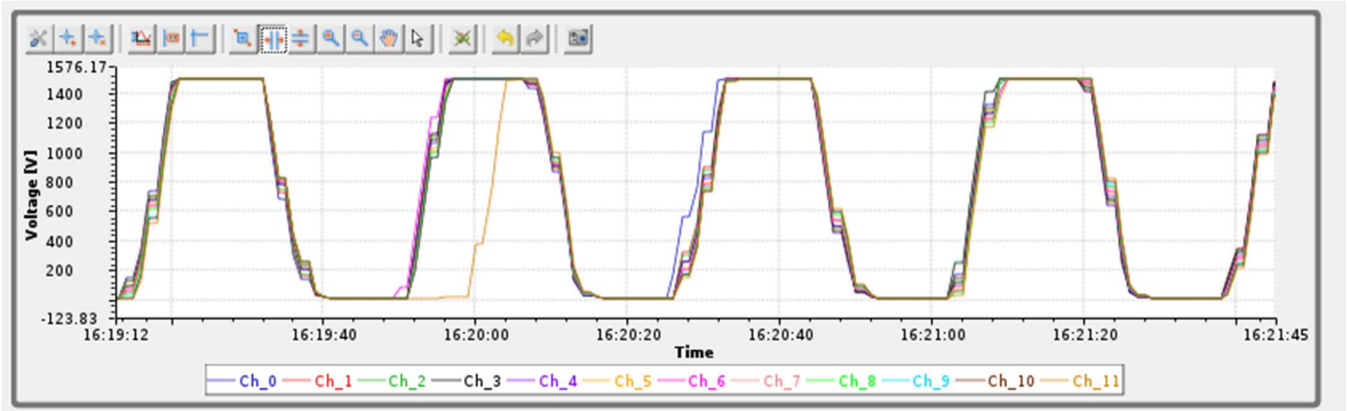
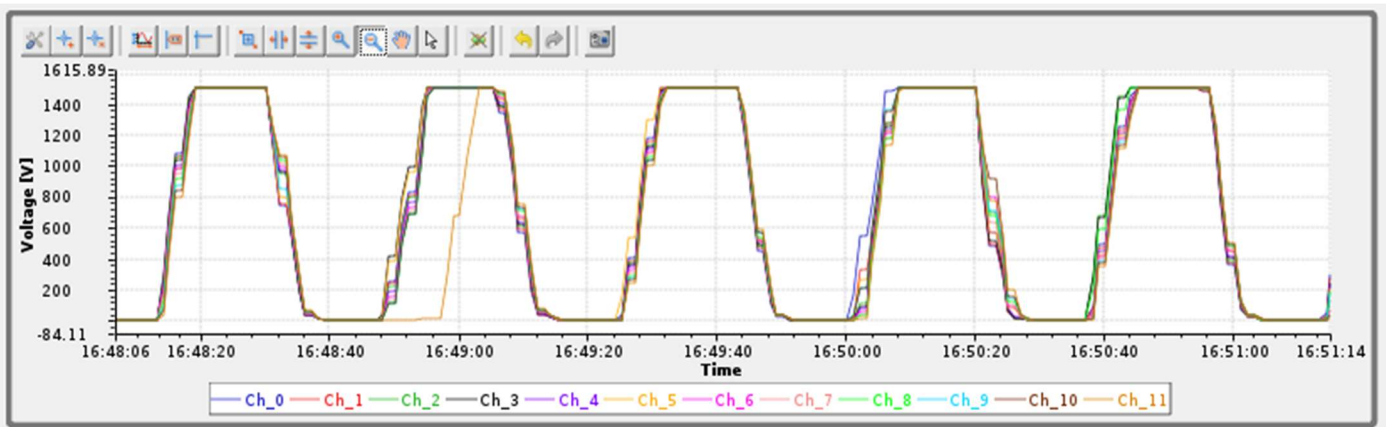

Fig.7 – HV CAEN – Voltage Ramp Test CSS BOY screen shows the first latency incident for channel 11. Channel 11 ramped up after ~ 10 s of P_w value was set to 1
Fig.8 – HV CAEN – Voltage Ramp Test CSS BOY screen shows the second latency incident for channel 11. Channel 11 ramped up after ~ 10 s of P_w value was set to 1
1. Channel 11 had a latency to ramp up and same behavior as mentioned in previous tests, channel 11 presented the latency issue two times during this trial. See fig.7 and fig.8.